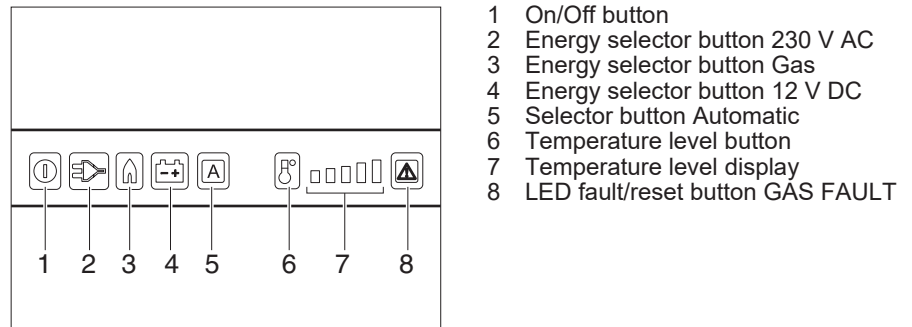

Fig. 112 Operating controls for the refrigerator
- Press the On/Off button (Fig. 112,1) for approx. 2 seconds. The refrigerator starts with the energy source mode last selected.
- Press the selector button Automatic (Fig. 112,5).
- Press the energy selector button Gas (Fig. 112,3).
- Press the energy selector button 230 V AC (Fig. 112,2).
- Press the energy selector button 12 V DC (Fig. 112,4).
- Press the temperature level button (Fig. 112,6). The corresponding LED of the temperature level display (Fig. 112,7) lights up.
- Press the On/Off button (Fig. 112,1) for longer than 2 seconds. The refrigerator switches off.